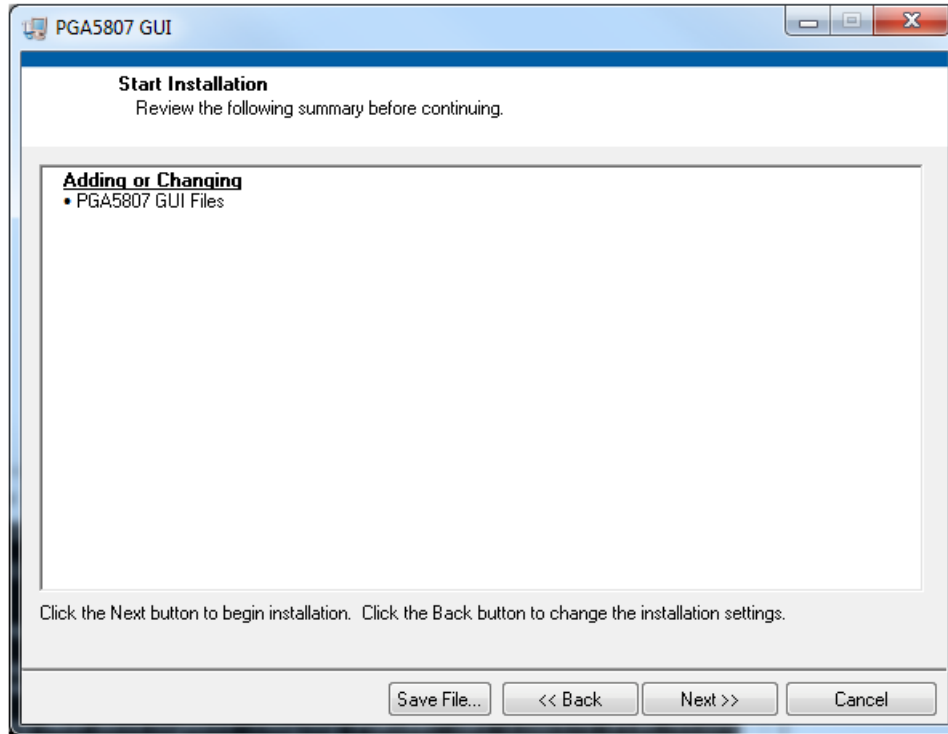

Figure 15. PGA5807 GUI Install (e)
- To begin the installation, press the *Next* button as shown in Figure 15.